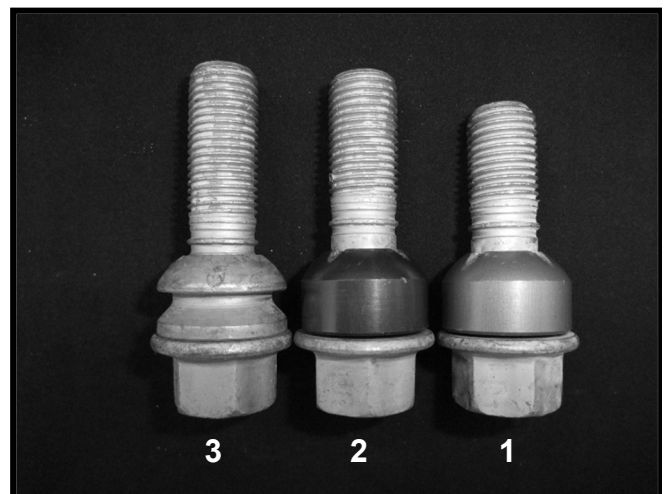

Fig. 06
- (2) Shank length 34 mm Cayenne from MY11
- (Fig. 06)